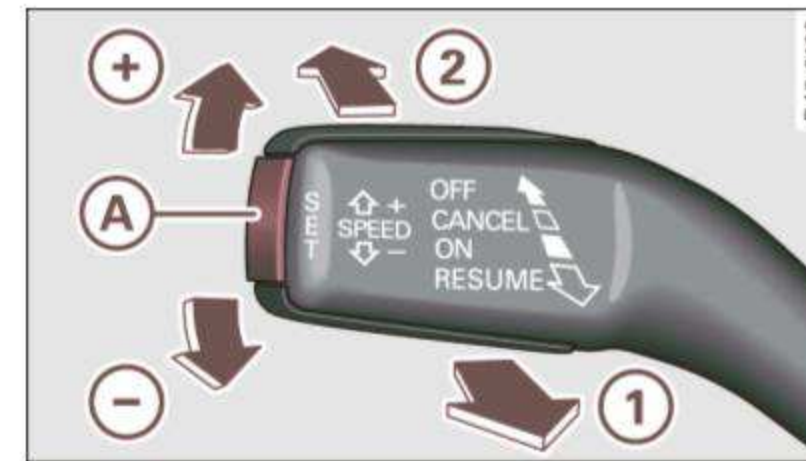

Fig. 65 Cruise control system controls
- Pull the lever to position ① ⇒ fig. 65 to switch the system on.
- Briefly press button (A).
- Press lever up towards the ⊕ ⇒ fig. 65.
- Press lever down towards the ⊖ ⇒ fig. 65.
The desired speed is increased by about 2 mph (2 km/h) by briefly pressing the lever upwards towards ⇒ fig. 65 (+).
The desired speed is decreased by about 2 mph (2 km/h) by briefly pressing the lever downwards towards ⇒ fig. 65 (+). ■
- Press the lever towards (2) (not latched) ⇒ page 81, fig. 65.
If no desired speed was stored when the system was temporarily switched off, you can store a new desired speed as follows: Drive at the desired speed and briefly press button ⇒ page 81, fig. 65 (A) (SET).
- Press lever into position (2) (latched) ⇒ page 81, fig. 65.